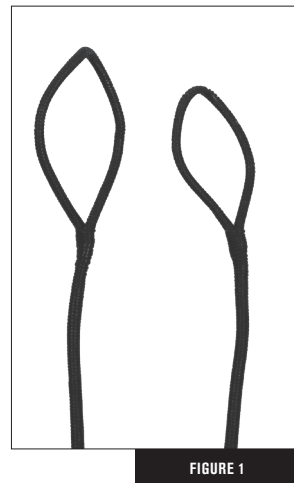
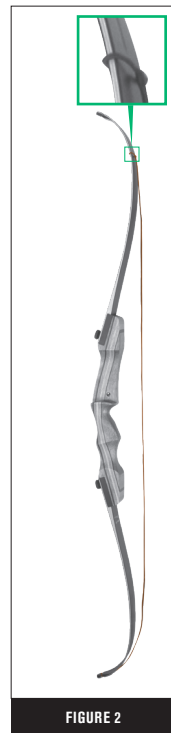

FIGURE 1
FIGURE 2
1. Orient your bow string so that the larger loop (Fig. 1) is positioned over the top limb tip and place it down over the limb. (Fig. 2)